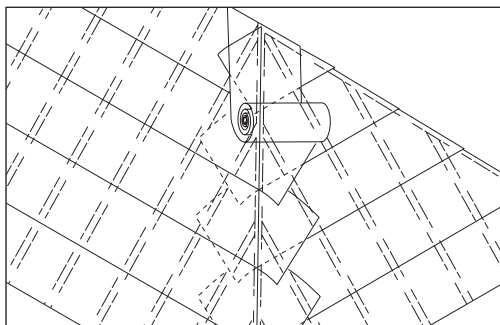

Fig 9 – Underlay at hip
- Ensure that a minimum lap of 150mm is maintained (Fig 9).